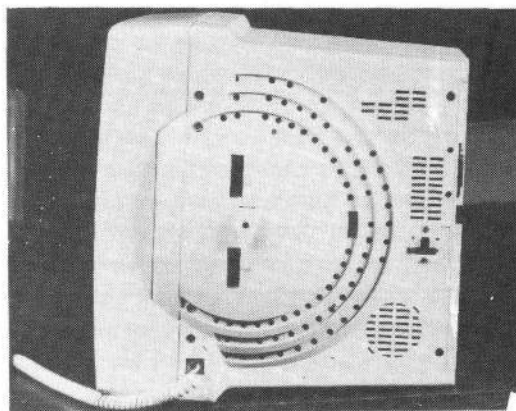

Figure 2-2. Keyboard Connection
2.1.3 Keyboard Connection. To connect the keyboard to the display console, orient the connector so that the small tab is toward the front of the terminal, and press the connector into the mating jack at the bottom left side (figure 2-2) until it latches in place.